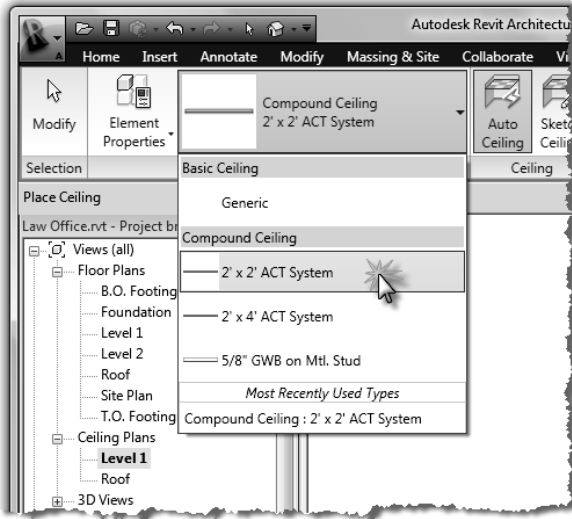

Figure 7-4.3
You have four ceiling types, by default, to select from (Figure 7-4.3).
17. Click the **Element Properties** button (Figure 7-4.3).